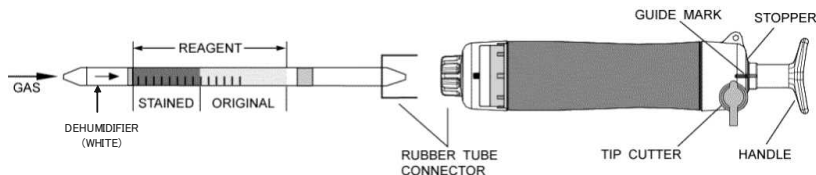

Fig.1
- ② Insert the detector tube into the aspirating pump securely as shown in Fig.1 (Arrow mark shall point to the pump.)
- ③ Align the guide marks on the shaft and stopper of the aspirating pump.
- ④ Pull the pump handle at a full stroke until it locks and wait for 1.5 minutes or until the completion of sampling is confirmed with the flow indicator of the pump (See descriptions about the flow indicator in the instruction manual of the pump).
- ⑤ On completion of sampling, read the scale at the maximum point of the stained layer.
- ① Temperature: Correct the tube reading by following temperature correction table.